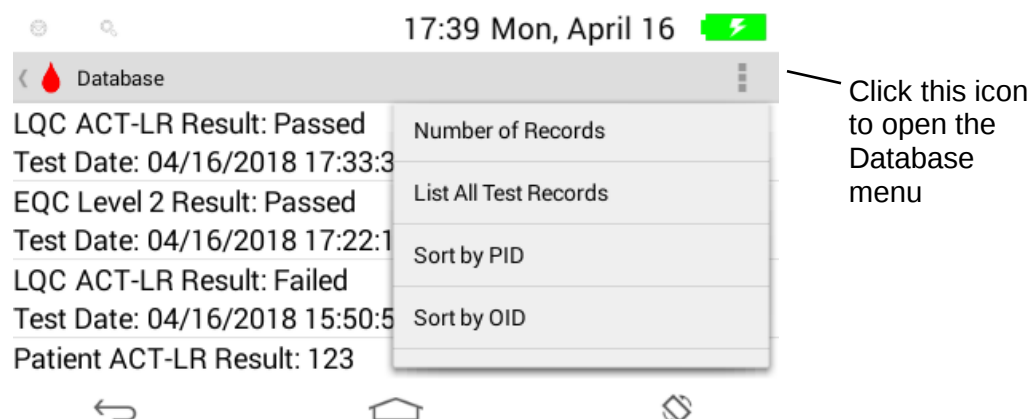

Figure 54 – The Database menu
- d) Displays the test result. See Figure 54.